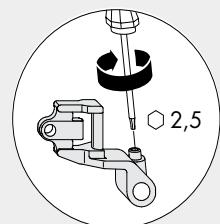

Figure 2
- B** Position bottom hinge (2) and top hinge (9) and fix both in place by tightening the cheese head screws (torque 2.5 ± 0.25 Nm).
- B** Position bottom hinge SV right/left (12) and top hinge (15) and fix both in place by tightening the cheese head screws (torque 2.5 ± 0.25 Nm).
- C** Connect top hinge pin (8) with retainer (7) and insert into the top hinge (9) from below.
- C** Insert top hinge pin A0026 (14) into top hinge (15) from below.
- D** Position striker EUL-FBS (24.1)/striker (24.2) (24), tilt locking part TBT (26) and run-up block TBT (29) according to specifications on page 7 and fix in place with grub screws (torque 1.5 ± 0.25 Nm).
- E** Press suitable spring (27) according to specifications on page 2 into tilt locking part TBT (26).
- > F** Position strikers (35) on the BS and VS according to specifications on page 7 and fix each in place with grub screws (torque 1.5 ± 0.25 Nm).
- > G** Position strikers (35) on the VSU and the VSO according to the specification on page 7 and fix in place with grub screws (torque 1.5 ± 0.25 Nm).
- B** Top hinge pin (8/14) must be secured in the stay hinge (10/15) (see Figure 2).